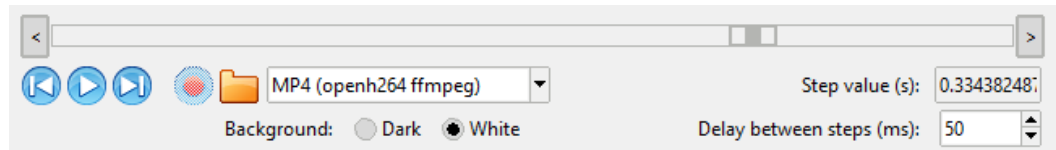

Figure 47. Animation frame.
- **Animation:** using the animation progress bar and the standard animation buttons (Figure 47) you can analyze the dynamic behavior of the fertilizer particles for each time step.